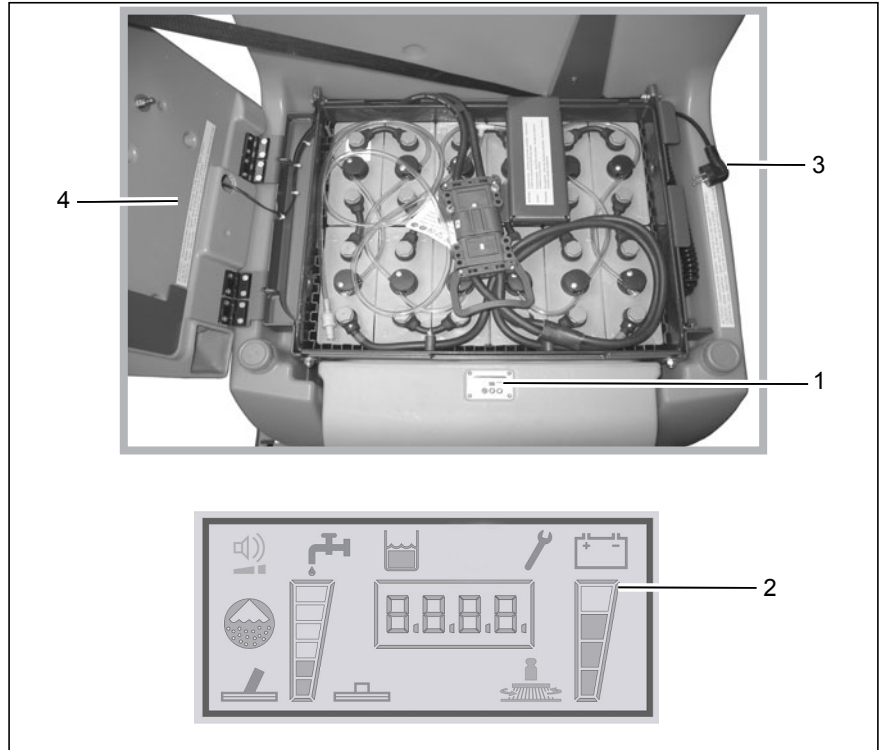

Fig.7
The batteries are charged using the integrated battery charger (Fig. 7/1). The batteries can be charged as soon as the first field in the charge status indicator (Fig. 7/2) goes out, at the latest, however, after the cleaning functions have switched off (all fields go out).
2. Open the seat console and connect the battery charger to the power outlet using the power cable (Fig. 7/3).
The seat console (Fig. 7/4) must be open during the charging process!